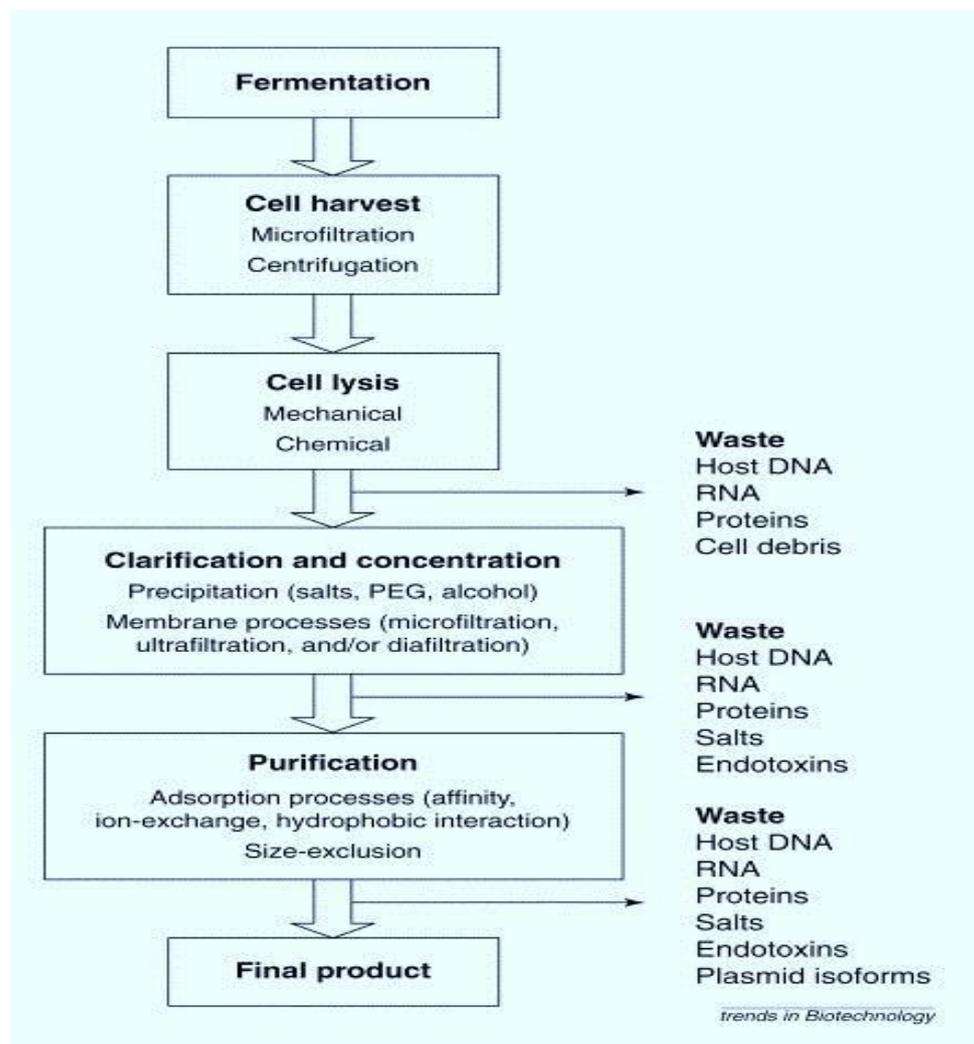

Fig. 6.1: Stages of downstream processing (DSP)
- DSP can be divided into five stages (Fig.6.1):